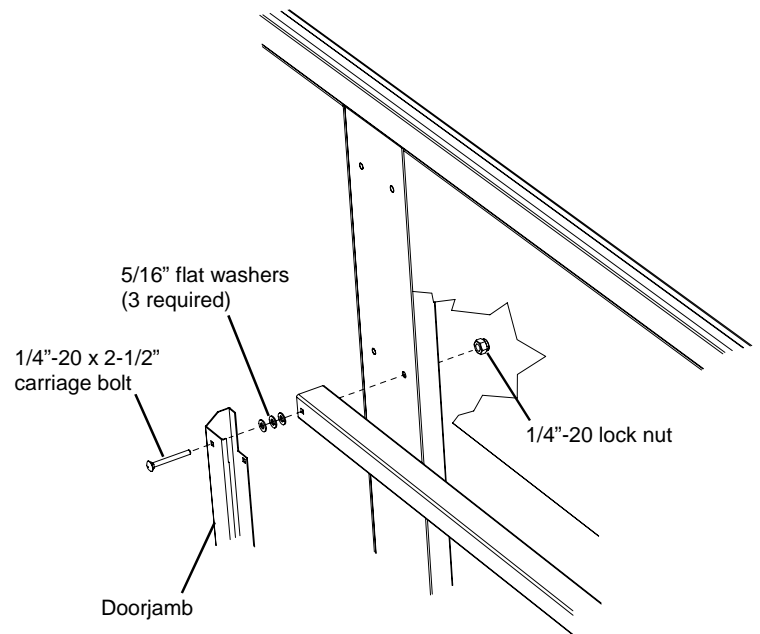

Figure 16
2. Assemble the upper door track, one doorjamb, and one end stop bracket to the cage posts. See figures 14, 15, 16 and 17. (Note the use of three 5/16” flat washers at the top doorjamb screw. See figure 16.)